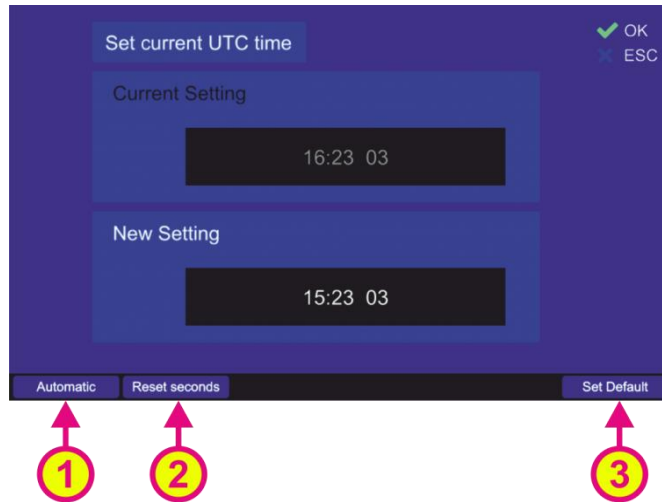

Fig. 132 Changing the UTC time
Following dialog appears (s. Fig. 132).
- Use the “Automatic” hotkey (s. Fig. 132, position 1) to adopt the GPS time value (only if GPS data is available).
- By default the current seconds value is inherited to the new setting. To reset the seconds value to “00”, press the “Reset seconds” hotkey (s. Fig. 132, position 2).
- Use the “Set Default” hotkey (s. Fig. 132, position 3) to reset the value to the default value (internal time of the DCU real time clock).